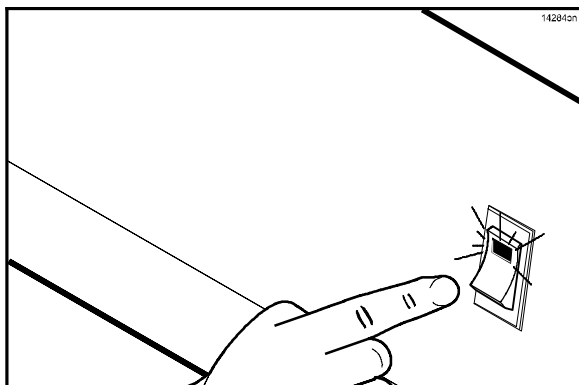

Figure 21
1. Place the fan interlock switch in the ON position. The controller will display the message "OFF". (See Figure 21.)